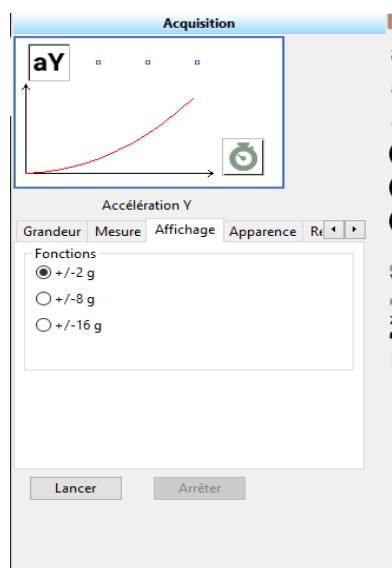

Figure 10 : Choose a suitable display
- Click on , then "Affichage", multiple calibration exist: $\pm 2g$, $\pm 8g$, $\pm 16g$, select $\pm 2g$ for a better visualization (figure 10).